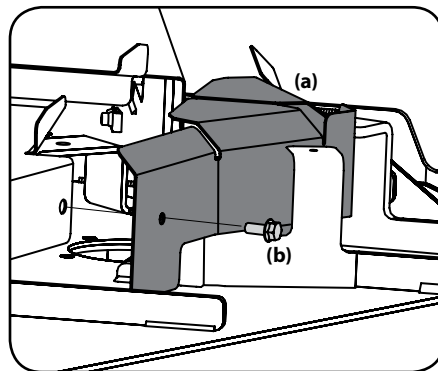

Figure 4-14
3. On models with full deck covers, the front deck cover (a) will need to be removed before removing the deck. To take off the front deck cover (a) remove the two hex screws (b, one on each side) that secure it to the main deck cover. See Figure 4-14.
13. On models with deck covers, re-install the front deck cover. See Figure 4-14.